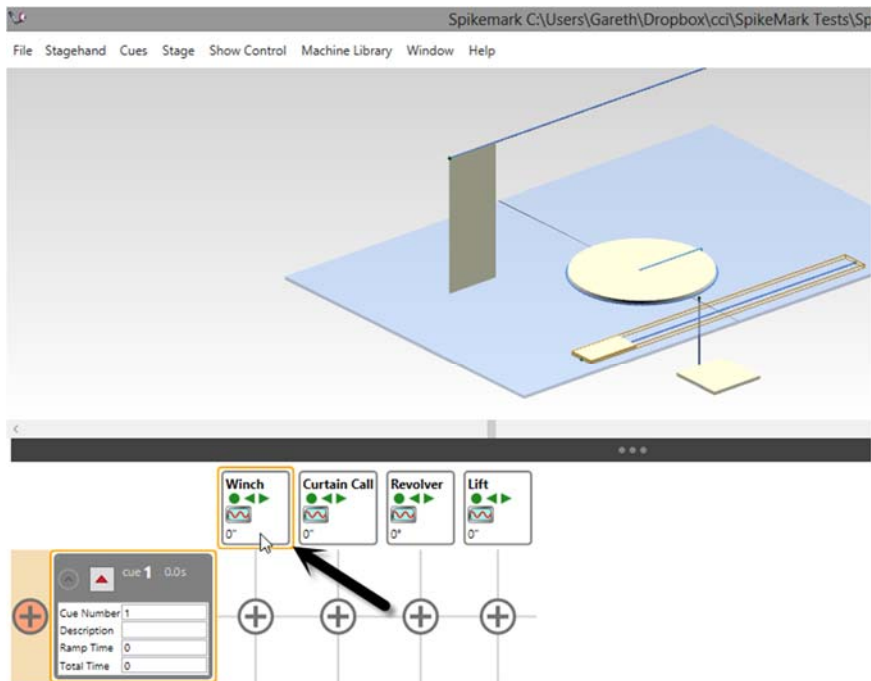

Figure 295
3. If you don't already have a movement for the selected motor in this cue, click the **Add Movement** button in the **Cue Grid** (Figure 295).